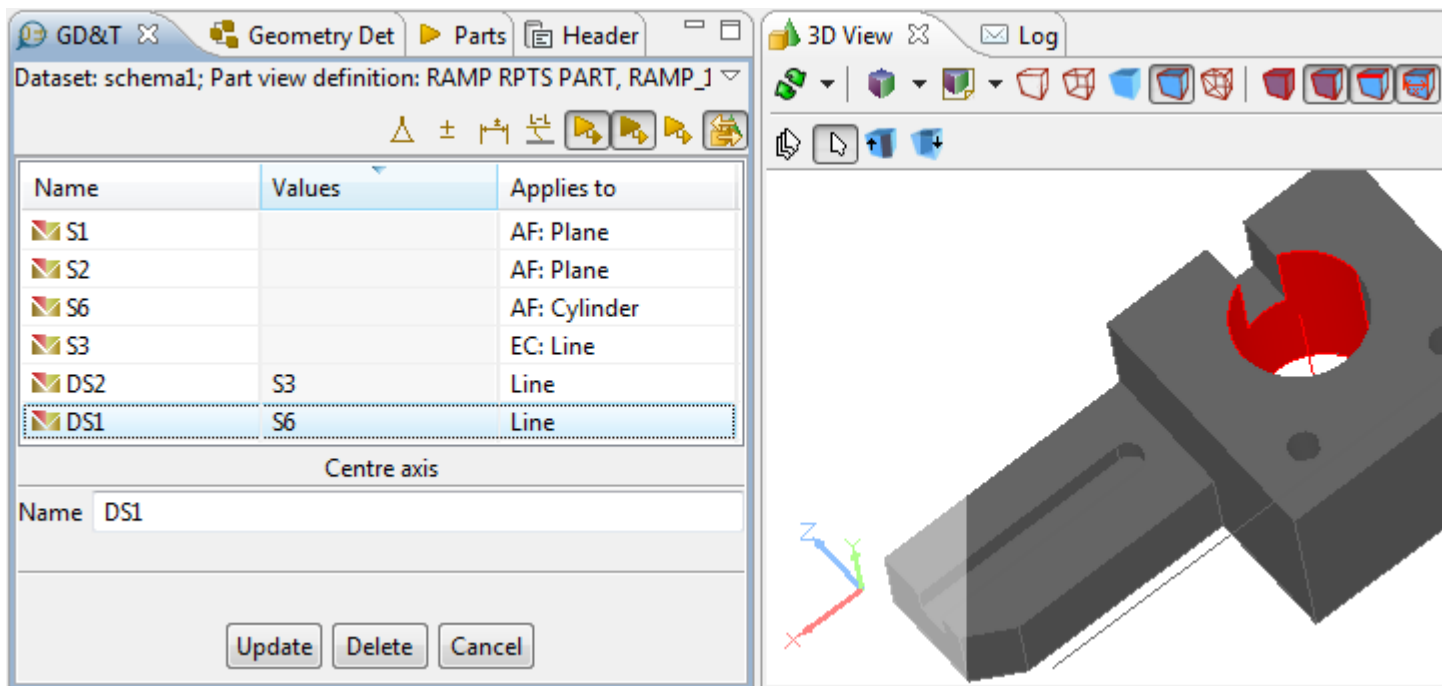

Figure 7. Selected derived shape aspect ('DS1') is highlighted (black line) in 3D View with associated shape aspect ('S6' - highlighted in red colour)
- Select the derived shape aspect entry in the table ('DS1') to display it highlighted in the  **3D View** together with the associated shape aspect ('S6') (see Figure 7).